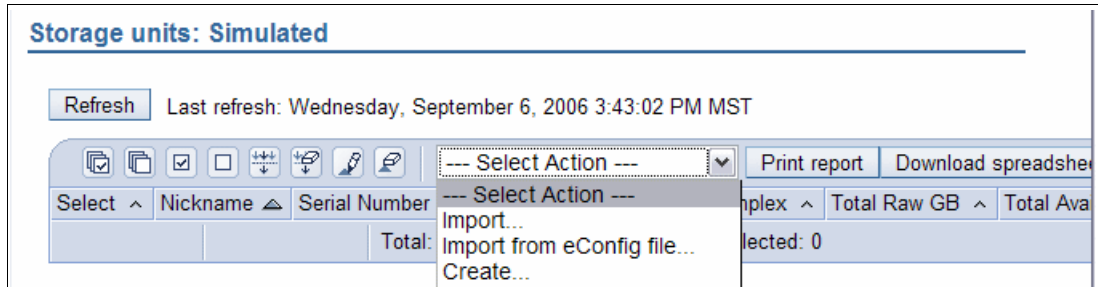

Figure 12-4 Storage Unit creation choices
- From the Storage Units, you now need to select the drop-down menu to generate a Storage Unit, as shown in Figure 12-4.
There are three choices depicted in Figure 12-4: